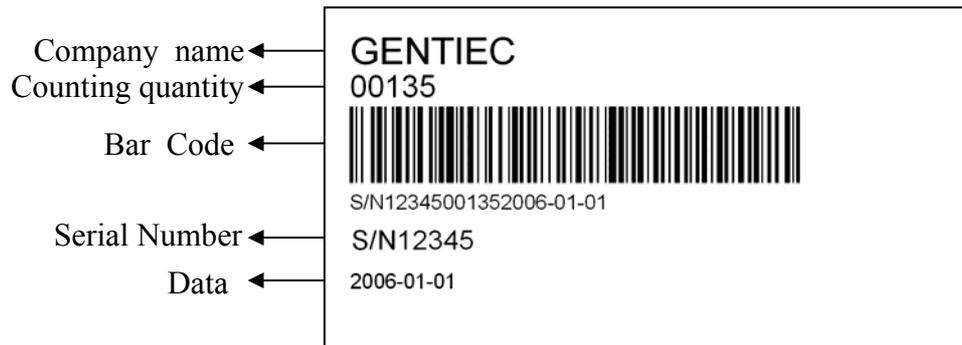

Figure 8
Step4. If you don't need to edit our original setting, press the button  to print (please refer to the figure 8)